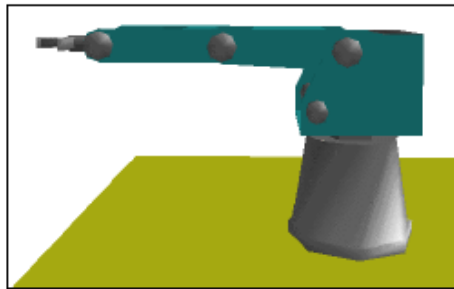

Figure 3-1: Position #1
- c) Using the Manual Movement dialog box, bring the robot arm to the position illustrated in Fig.3-1